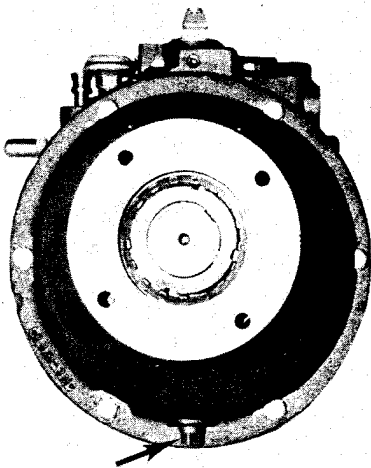

Fig. 2-13, (V11958). Paragon marine gear drain point
1. Remove drain plugs located at bottom of reverse gear and reduction gear. Fig. 2-13. Drain oil into suitable container.